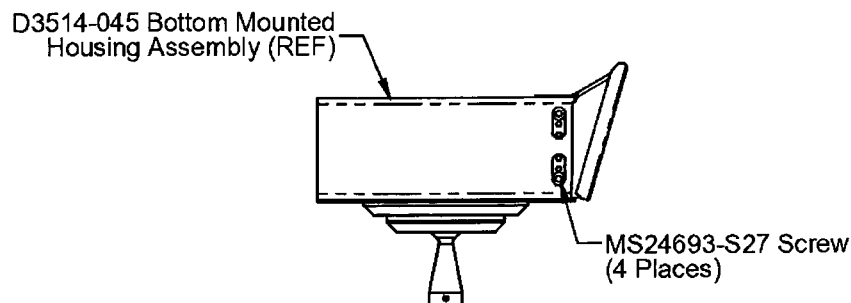

Figure 3.2.7 – Screws for Mounting GPS Unit
- 3.2.10 Install the GPS unit (not included in this kit). Install the GPS Mounting Box into the D3514-045 Bottom Mounted Housing Assembly using the qty(4) MS24693-S27 screws and the nutplates mounted on the D3514-045 Housing Assembly as shown in **Figure 3.2.7**.